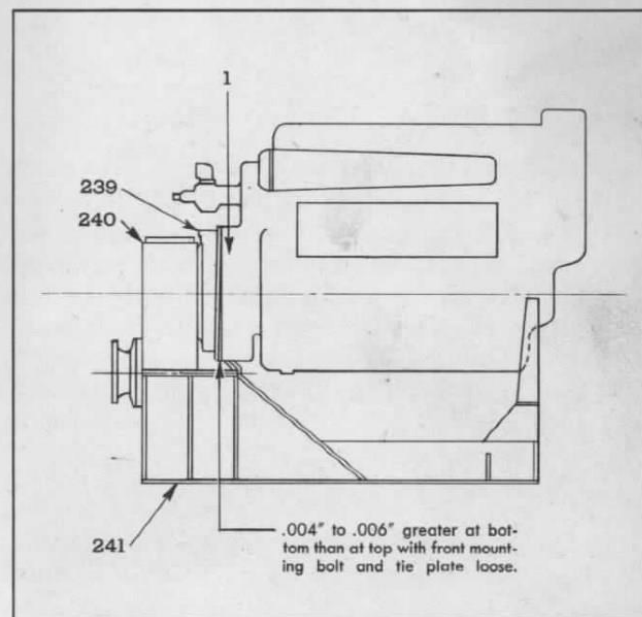
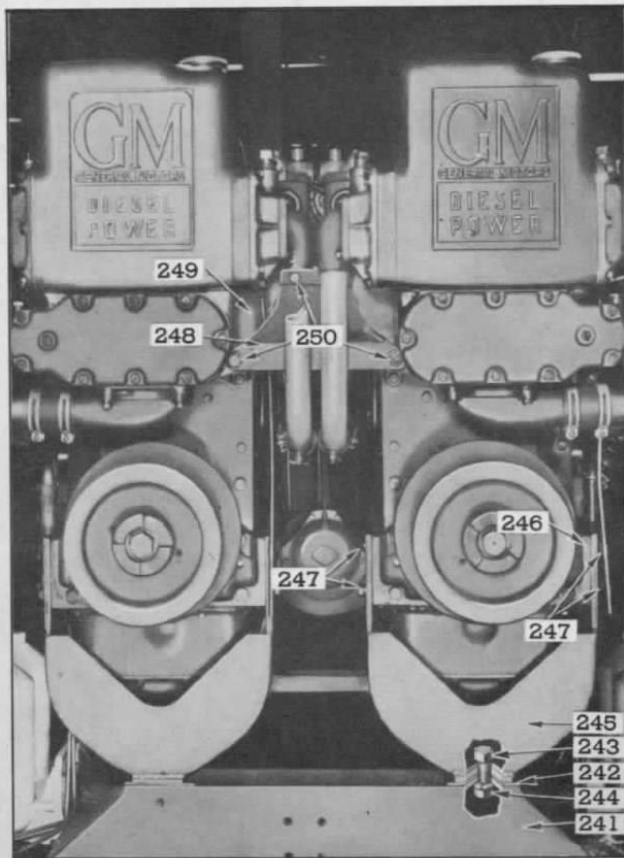

Fig. 26—Alignment Between Engine Flywheel and Hydraulic Reverse Gear Housings on Twin or Quad Engine Units
Fig. 27—Front Engine Mounting of Twin Marine Unit
on Twin or Quad units where the Hydraulic Reverse Gear is sandwiched between the engine and the reduction gear, should be as shown in Fig. 26. That is: The gap between the flywheel housing and the reverse gear should be from .004" to .006" greater at the bottom than at the top with the engine front mounting bolts and tie plate loose. Make this check as follows:
1. Refer to Fig. 27 and loosen the front mounting bolt (243) of the one engine being checked.
2. Loosen all four bolts (250) in tie plate (248).
3. Loosen all bolts between engine flywheel housing (1) and reverse gear housing (239), Fig. 26, until bolts are finger-tight only.
5. Install sufficient shims between front mounting bracket (245) and engine base (241) so that space between the flywheel and reverse gear housings is .004" to .006" greater at the bottom than at the top, as shown in Fig. 26.
7. Tighten front mounting bolt (243).
9. Tighten tie plate bolts (250).